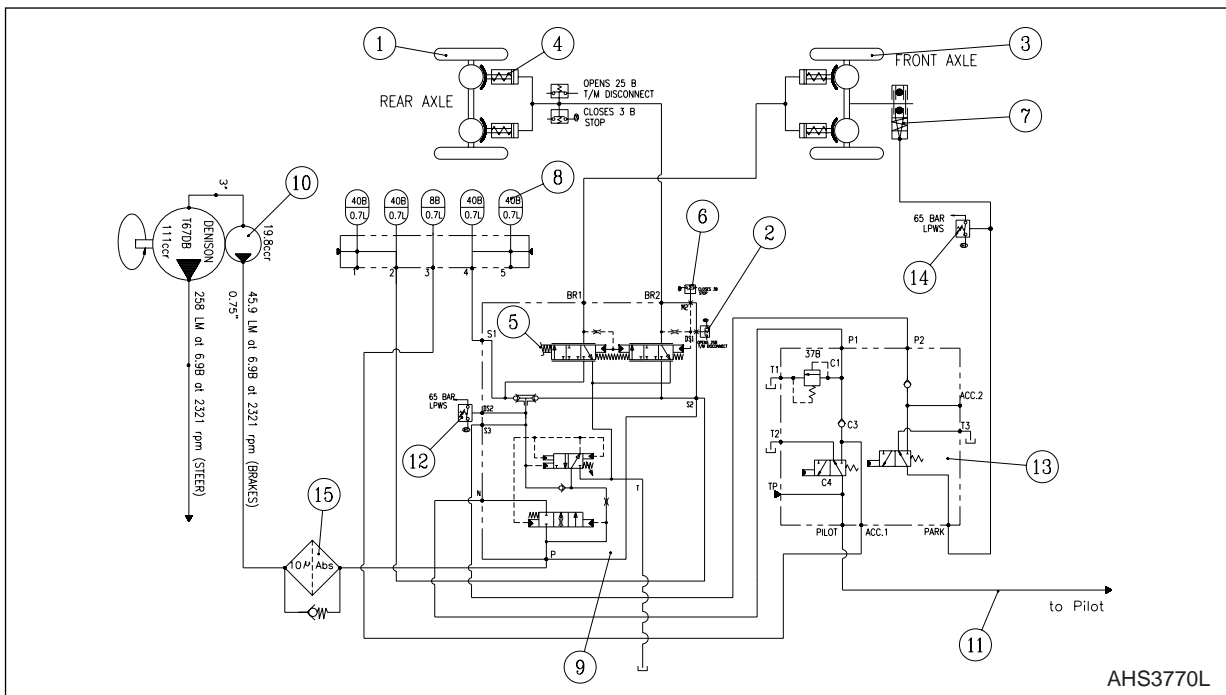

Figure 3 BRAKE HYDRAULIC CIRCUIT
Multiple wet disc brakes for stopping vehicle movement are contained in the axle-end planetary gear sets. A brake pump (10, Figure 3) supplies pressurized fluid to the brake hydraulic system. Force on the brake pedal (5) moves two spools in the brake valve (9). The spools are proportional. The farther the brake pedal is pushed, the greater the amount of fluid that passes through each spool. One spool ports fluid to brake pistons in the front axle (3). The other spool ports fluid to brake pistons in the rear axle (1). Pressure on the brake pistons applies pressure to the brake discs, and this stops axle shaft and wheel rotation.
The brake hydraulic system includes a pressure operated transmission cutoff switch (2, Figure 3). Pressing the brake pedal (5) will open cutoff switch (2). When the transmission cutoff switch in the operator's cab is selected, this will cut off current to a solenoid operated hydraulic valve in the transmission. This prevents operation of the forward clutch in the transmission. This prevents the transmission from driving the wheels forward when the brake pedal is pressed.